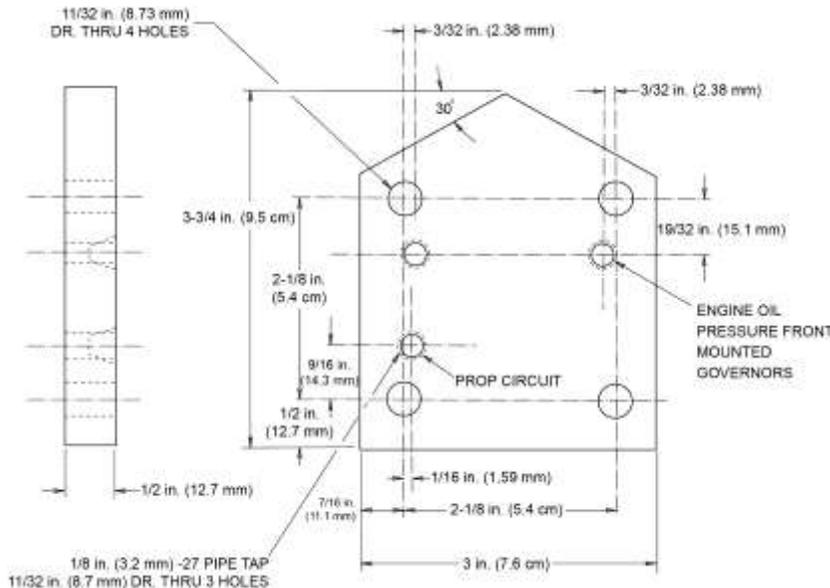

Figure 99
NOTICE: In the following steps, to prevent an air leak, use a propeller governor gasket P/N 72053 with test plate P/N ST-483 (Figure 99). Refer to the latest revision of Service Instruction No. 1462 for any updates.
- (2) Install the gasket and the test plate P/N ST-483, or equivalent on the governor pad with the air fitting in alignment with the governor oil passage that goes to the front bearing (forward hole) or left side of the mounting facing the pad. Refer to Figure 99.
- (3) Connect a calibrated oil pressure gauge (0 to 100 psi) (0 to 689 kPa) to the appropriate engine oil pressure port on the test plate for your governor location. Install a plug in the propeller circuit and unused engine oil pressure circuit port.
- (4) Start and warm-up the engine until the oil temperature is within the correct operating range (Appendix A of the *L1O-360-B1G6 Engine Installation and Operation Manual*.)